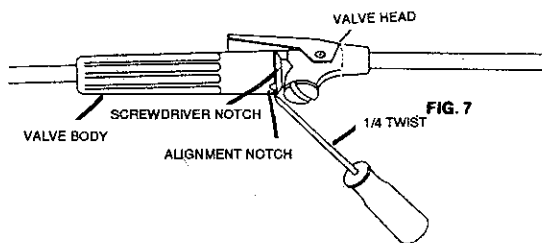

FIG. 7
- Insert small blade screw driver into notch and twist 1/4 turn to separate valve body from valve head. SEE FIG. 7
- (d) Align valve body with valve head and snap together tightly. SEE FIG. 7